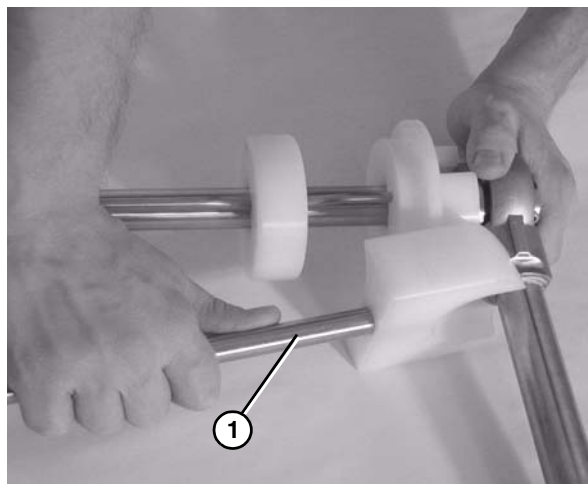

Figure 66
4. Attach the guard bar (Figure 66, item 1).